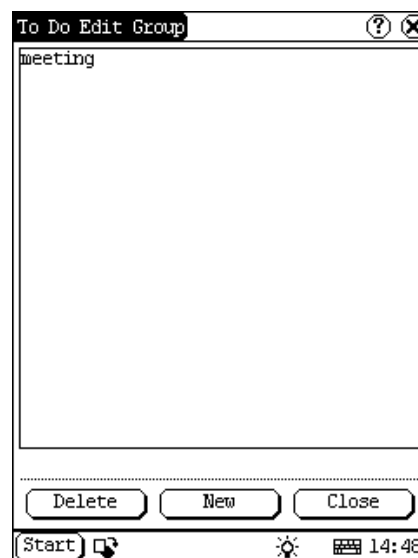

Figure 4-26
- 2) In the type list, select 'Edit Group' to open the Edit Group interface. See Figure 4-26.